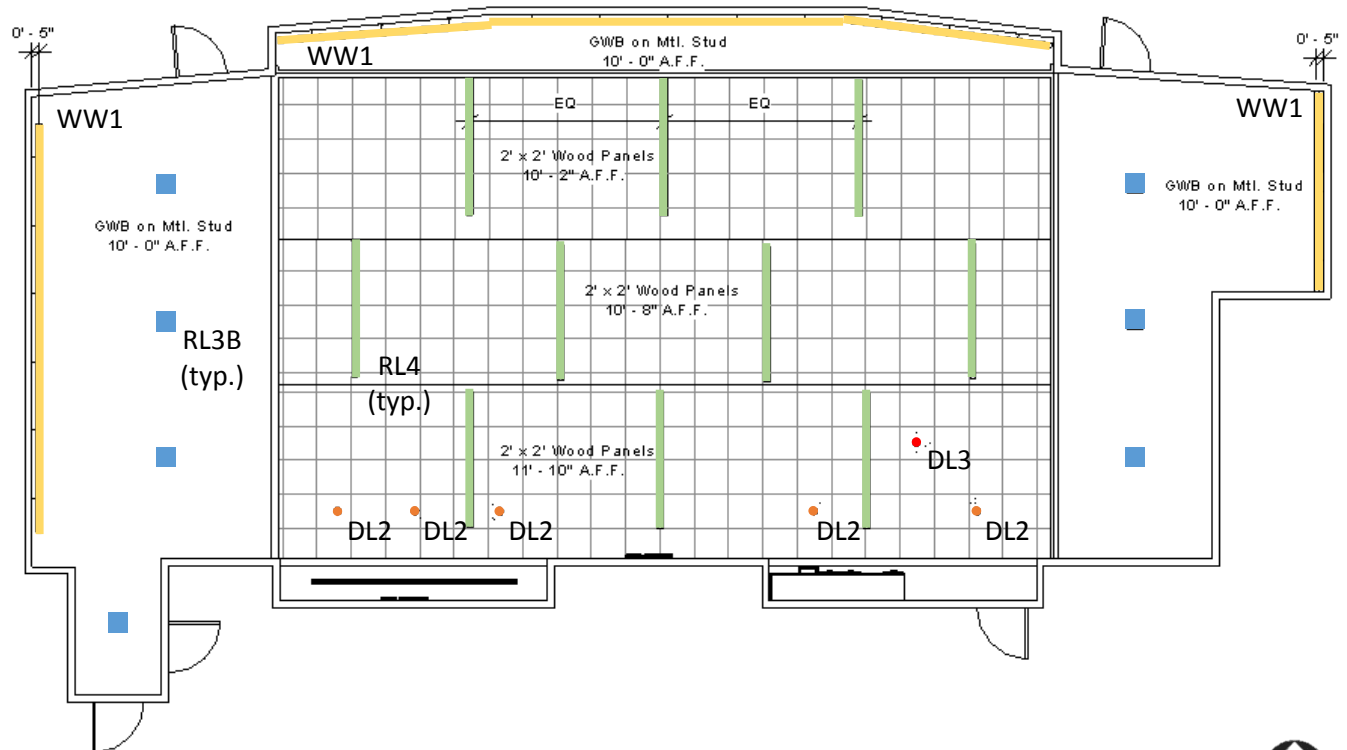

Figure 4.3 | Reflected Ceiling Plan
- Ceiling Height | Various heights (Reference Figure 4.3)
presentation board. This allows the employees to focus on their lecture and lecturer. An occupancy sensor with a time delay of 30 minutes will also be located in the center of the room. In order to achieve this design, the fixtures located in Table 4.3 were used. The fixture schedule should be viewed with the Reflected Ceiling Plan (Figure 4.3) located further down the page.